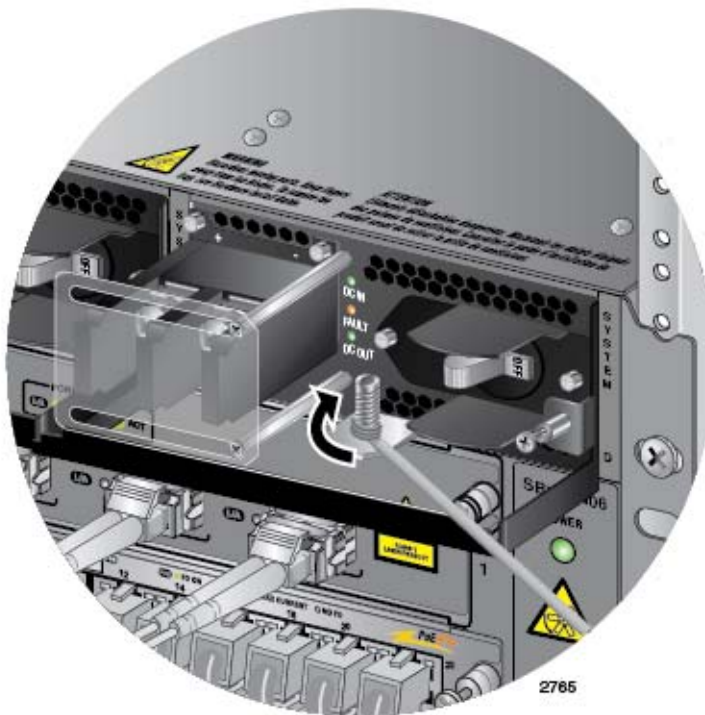

Figure 119. Attaching the Bare Grounding Wire to the Grounding Post
3. Wrap the grounding wire clockwise around the base of the grounding post, as shown in Figure 119.